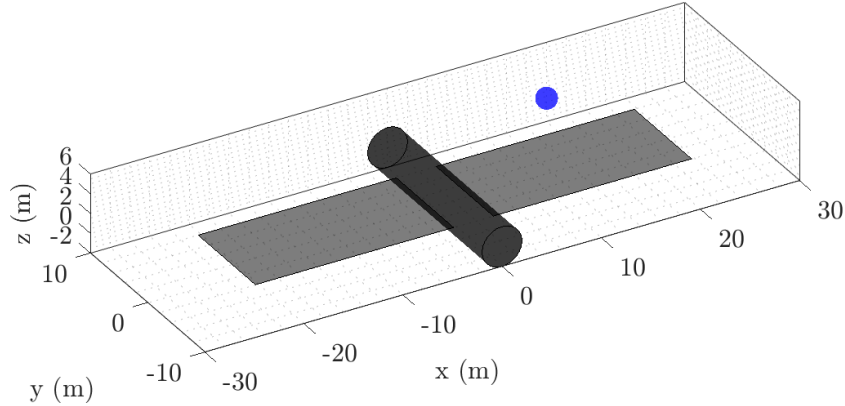

Figure 1: Spacecraft (blue) inspecting abandoned space station. The spacecraft turns red if a collision is detected.
2. `plot_scene()`: a function to make a plot like Figure 1.